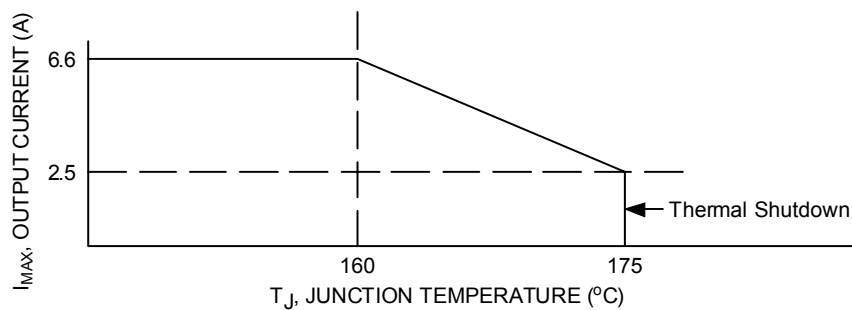
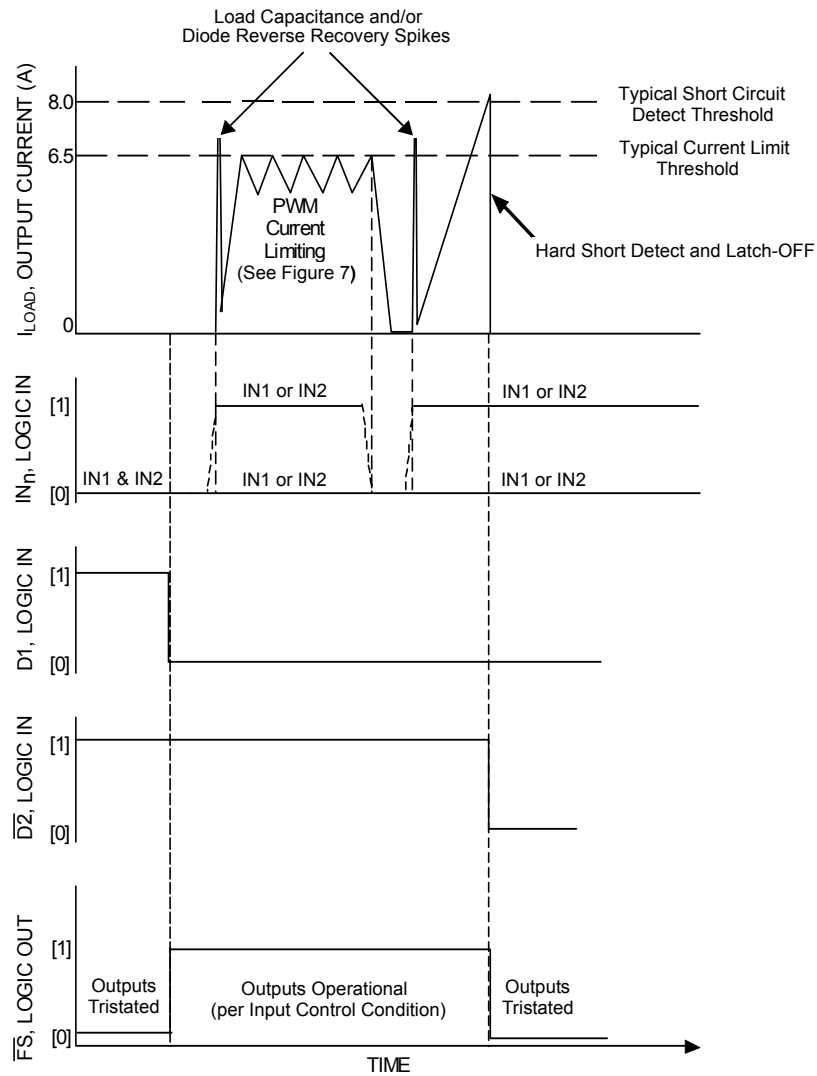

Figure 5. Output Current Limiting Versus Temperature (Typical)
Figure 6. Output Load Current Limiting Versus Time
28. Increasing output currents will become limited at 6.5 A. Hard shorts will breach the 6.5 A limit, forcing the output into an immediate tristate latch-OFF. See Figure 6 and Figure 7. Output current limiting will cause junction temperatures to rise. A junction temperature above  $160^\circ\text{C}$  will cause the output current limit to progressively "fold-back" (or decrease) to 2.5 A typical at  $175^\circ\text{C}$  where thermal latch-OFF will occur. See Figure 5.
The PWM current limitation value is dependent upon the device junction temperature. When  $-40^\circ\text{C} < T_J < 160^\circ\text{C}$ ,  $I_{MAX}$  is between 5.2 and 7.8 A. When  $T_J$  exceeds  $160^\circ\text{C}$ , the  $I_{MAX}$  current decreases linearly down to 2.5 A typical at  $175^\circ\text{C}$  typical (or where the device reaches  $T_{LIM}$ ) and overtemperature shutdown occurs. See Figure 5. This feature allows the device to remain operational for a longer time but at a regressing output performance level at junction temperatures above  $160^\circ\text{C}$ .